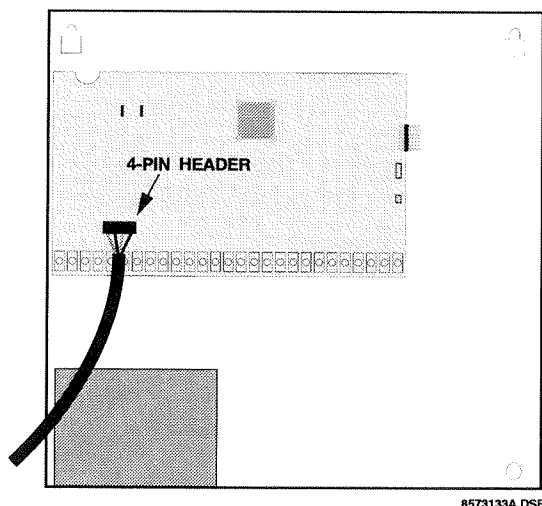

Figure 2. Connecting the Cable to the Panel
2. Hold the cable by the plug with wires down and slide it onto the panel's 4-pin header as shown in Figure 2.